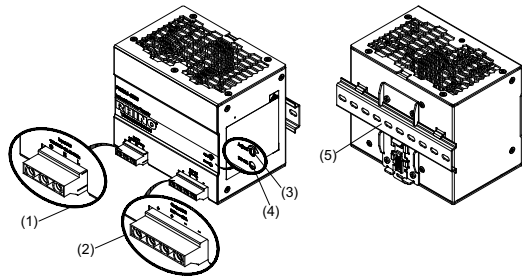
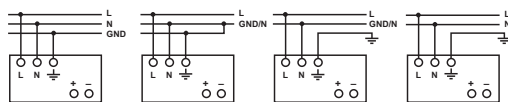

Figure 1
Figure 5
2. Device description (Fig. 1)
5.1. Input connection (Fig. 1 (1), Fig. 5)
Use L, N and GND connections of input terminal connector (see Fig. 1 (1)) to establish the 100-240 VAC connection.
5.2. Output connection (Fig. 1 (2))
Use the "+" and "-" screw connections to establish the 24 VDC connection. The output provides 24 VDC. The output voltage can be adjusted from 24 to 28 VDC on the potentiometer. The green LED DC OK displays correct function of the output (Fig. 1 (4)). The device has a short circuit and overload protection and an overvoltage protection limited to 35 VDC.